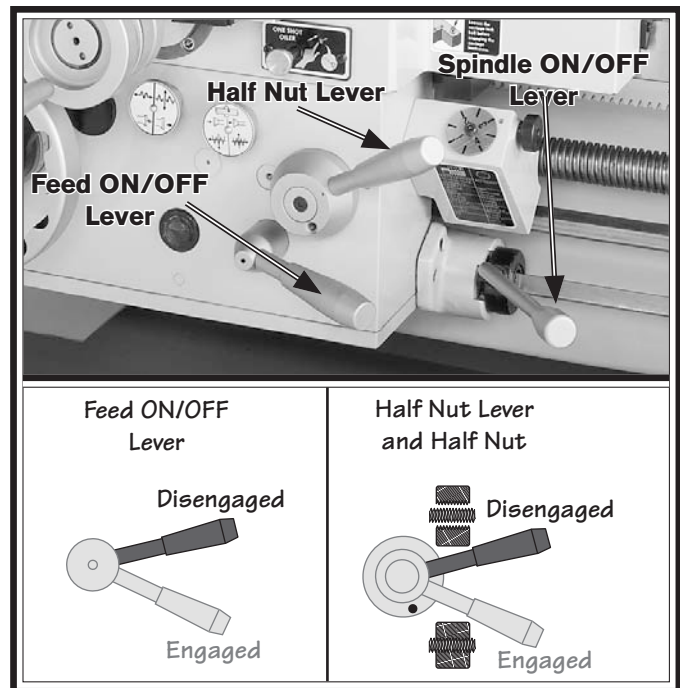

Figure 27. Apron controls for test run.
9. Pull up on the half nut and the feed ON/OFF levers (see **Figure 27**), then use the carriage handwheel to move the carriage back and forth to ensure that it is not engaged with the leadscrew or feed rod.
10. To prevent the spindle from rotating when power is applied to the motor, move the spindle ON/OFF lever to the OFF (middle) position (see **Figure 27**).